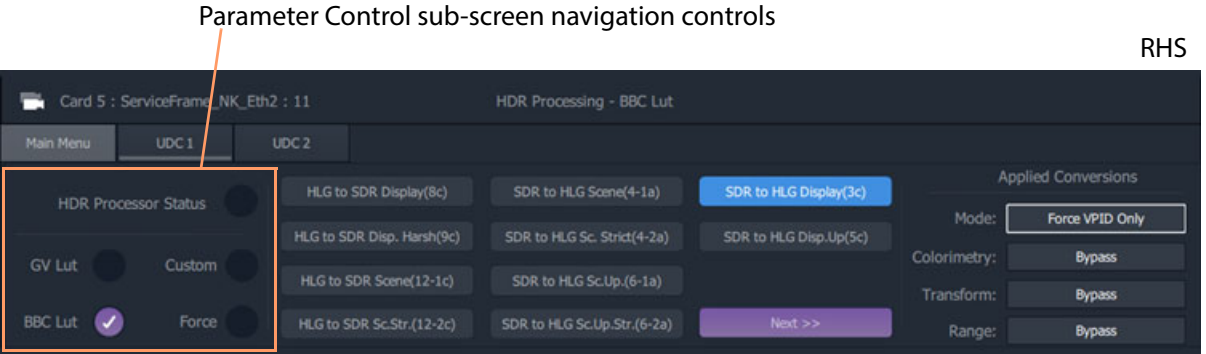

Fig. 5-8: Parameter Controls Screen Navigation Controls (Example shown is for XIP Card)
- 3 Some card parameter control screens are further broken down into sub-screens which are selectable with further navigation controls. This is shown for the XIP card example in Figure 5-8.